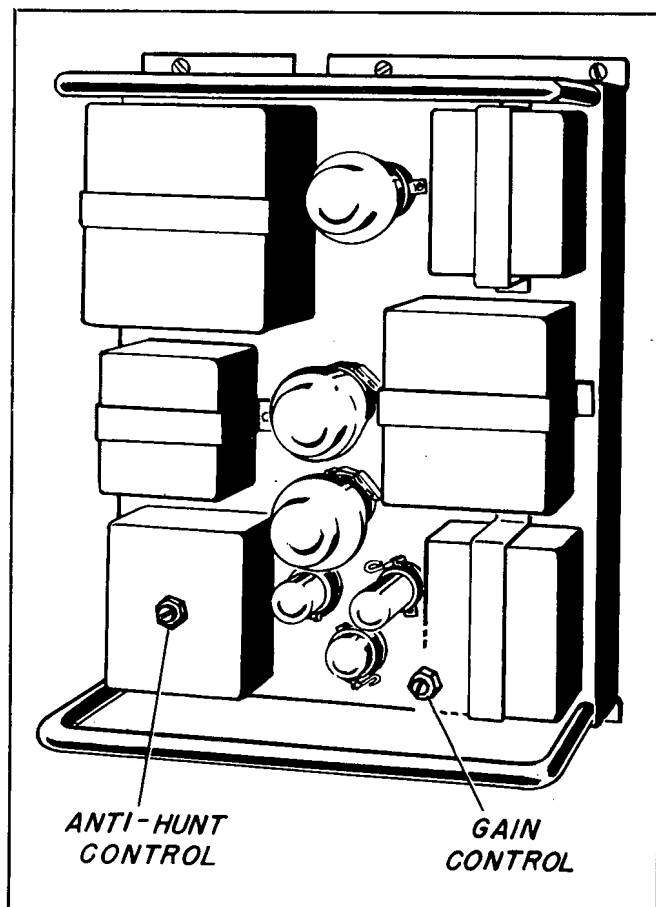

Figure 7-119. Adjustments in Synchro Amplifier
(1) An indication of the degree of hunting may be obtained by watching the motor pinion or observing the fluctuation of an a-c voltmeter connected to terminals HR1 and HR2 or 2R1 and 2R2 on the terminal board in the lower compartment. The range of the meter should be 0-5 volts and it should have a sensitivity of 1000 ohms per volt.
(2) Rotate the GAIN control clockwise through three-fourths of its range. This control is shown in Fig. 7-119.